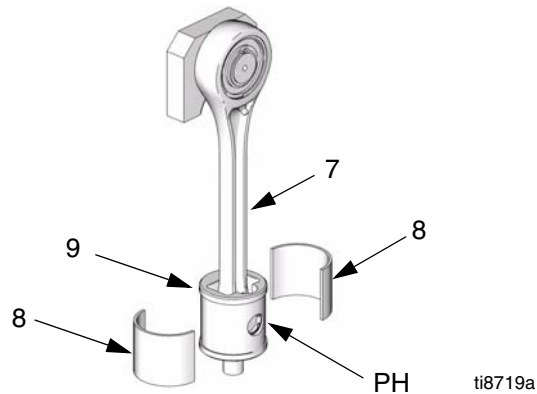

FIG. 4. Slider Bearings
1. See FIG. 4. Install the two new bearings (8) on the slider piston (9). The joints between the bearings must align with the pin hole (PH) in the slider piston.